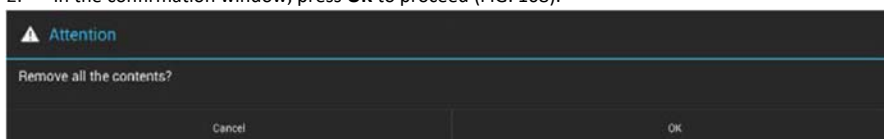

FIG. 108 Confirm - Remove all the credentials
2. In the confirmation window, press **OK** to proceed (FIG. 108):